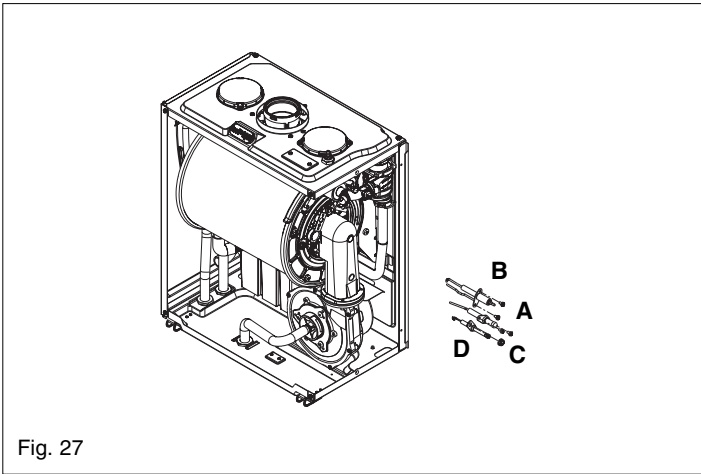

Fig. 27
6.13 ELECTRODE & CONDENSE SENSOR (fig. 27)